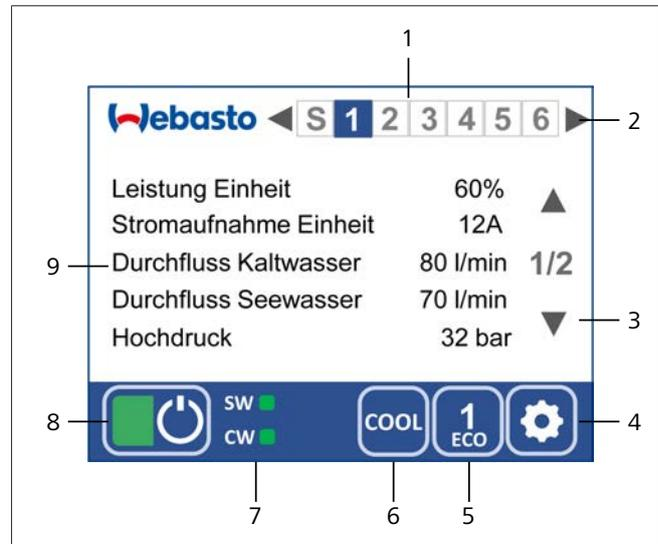

Fig. 2 Home screen
Changing the display is carried out with the arrow keys in the upper status line (Fig. 2, item 2).